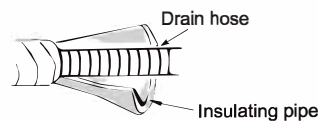

Fig.10
(1) Add insulating pipe in the indoor drain hose in order to prevent condensation.
(2) The plastic expansion particles are not provided.(As show in Fig.10)